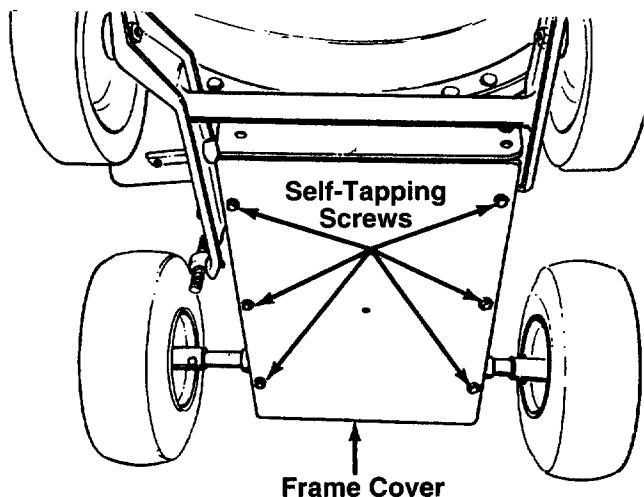

FIGURE 23.
- Remove the frame cover by removing eight self-tapping screws from underneath the chipper-vacuum. See figure 23. (Only six of the eight screws are shown in the figure.)